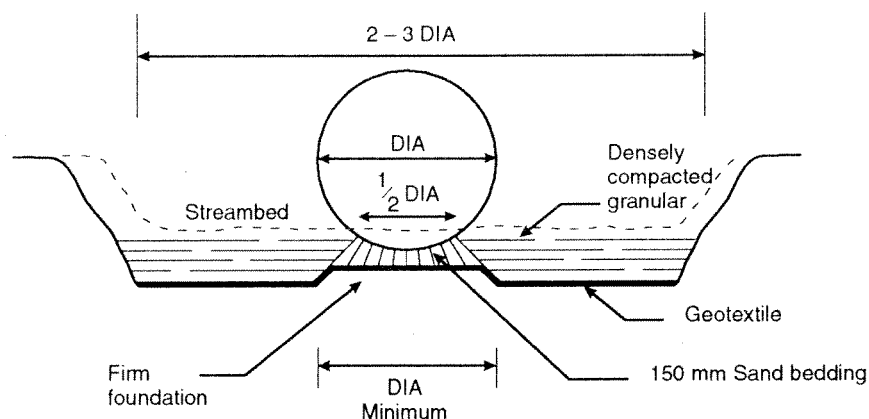

**Figure 8 Shaping the Foundation Area - section view**
**Grading:** Proper grading will encourage formation of a shallow sediment layer in the pipe, and ensure enough flow depth for fish migration. Set the culvert grade as level as possible. Set the elevation of the culvert invert (bottom) so that 10 percent of the culvert diameter will rest below the existing streambed and provide a minimum of 200 mm water depth, (see **Figure 8**). During flood periods, the sediment layer will quickly erode to provide full use of the culvert for the design water passage. This practice will also minimize future undercutting or scour at the culvert inlet and outlet.
**Shaping streambanks:** Remember that you are constructing a soil/steel structure. For example, don't visualize a 2 m diameter CSP. Visualize a 6 m wide soil/steel structure with 2 m for the CSP plus 2 m each for the side compaction. **Figure 8** shows some minimum guidelines. Use minimums where the streambank soil is naturally stable and dense.
Placement and compaction of the bottom, or bedding, material has already been discussed in the section Prepare Foundation. **Figure 8** shows a 150 mm thick cushion layer of loose bedding shaped and/or placed.
**Beside the pipe:** After the haunches are compacted use small compaction equipment. Remember the soil-steel structure (minimum) dimensions indicated in **Figure 8**. Place material on both sides of the pipe and spread in layers 150 to 300 mm thick depending on the type of compaction equipment being used, (see **Figure 10b**). Thin layers must be used to ensure complete compaction. Maintain fill at the same grade (tolerance 400 mm) on each side of the pipe at all times.